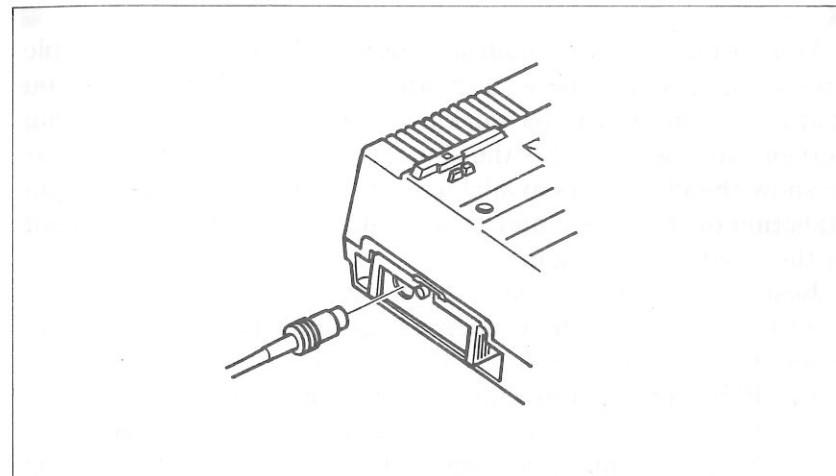

Figure 1-2. This is how you connect the cable.
2. Connect one end of the 8-pin DIN cable to the round socket at the right rear of the printer as shown in Figure 1-2. This cable is "keyed," so it is impossible for you to connect it incorrectly. This means that you should be able to plug in the cable with only a slight pressure — don't force it! If you have to force it, it's in the wrong way. Push too hard and you'll ruin your cable.